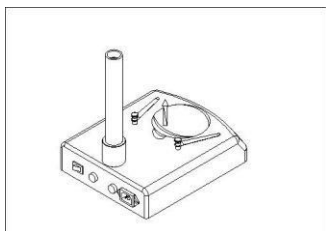

Fig.14
- 1) Press the stage on the sunken place then the other side will be lifted. (Fig.14)